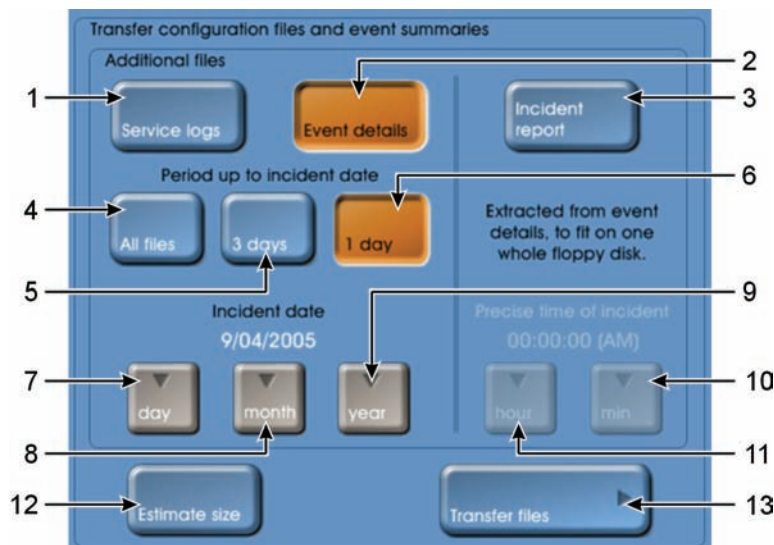

Figure 156: Transfer configuration files and event summaries area
The “Transfer configuration files and event summaries” area is shown in Figure 156 and the items are detailed in the table that follows. Use these controls and refer to the detailed instructions presented after the table to transfer files to an external device.
3. Do not select any of the additional file type filter buttons (items 1 to 3 in Figure 156).
4. Select the **Estimate size** button (item 12 in Figure 156) to display the total size of the files selected for transfer.
5. Select the **Transfer files** button (item 13 in Figure 156) to begin the file transfer.
3. Select the **Incident report** button (item 3 in Figure 156).
4. Use the Incident date buttons (items 7 to 9 in Figure 156) to set the incident date.
5. Use the Precise time of incident buttons (items 10 to 11 in Figure 156) to enter the exact time of the required files.
6. Select the **Transfer files** button (item 13 in Figure 156) to begin the file transfer.
3. Use the file type filter buttons (either or both items 1 to 2 in Figure 156) to select the type of files you wish to transfer.
4. Use the file period filter buttons (items 4 to 6 in Figure 156) to select the age of the files you wish to transfer.
5. Use the incident date buttons (items 7 to 9 in Figure 156) to set the latest date of the required files. The date of the incident can be obtained from the Event log screen. See "event log" on page 148.
6. Select the **Estimate size** button (item 12 in Figure 156) to display the total size of the files selected for transfer.
7. Select the **Transfer files** button (item 13 in Figure 156) to begin the file transfer.